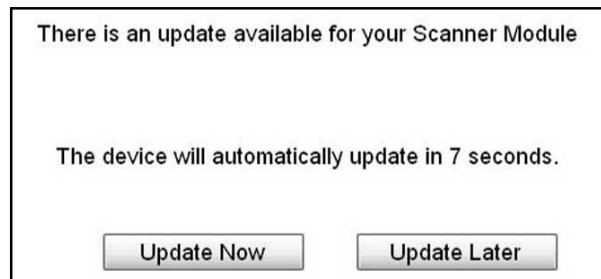

Figure 5-9 Scan Module update available message
Scan Module firmware updates (when available) are delivered with diagnostic software updates/upgrades. Upon starting the Scanner function, initially after a software update or upgrade has been installed, a message may be displayed to inform you an update is available (Figure 5-9).
5. Select **OK** when the update available message displays (Figure 5-9).